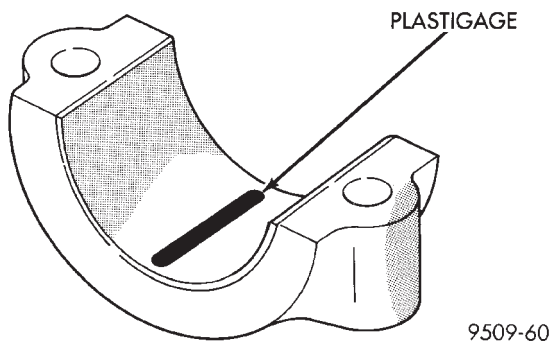
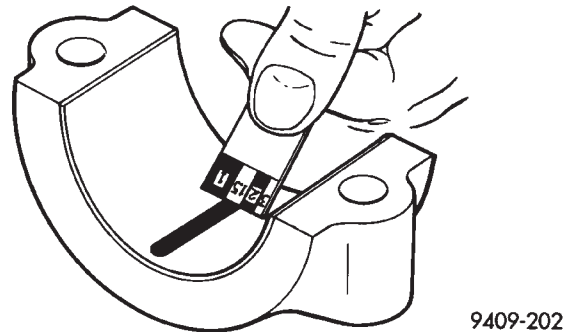

Fig. 3 Plastigage Placed in Lower Shell
Fig. 4 Clearance Measurement
- (1) Remove oil film from surface to be checked. Plastigage is soluble in oil.
- (2) Place a piece of Plastigage across the entire width of the bearing shell in the cap approximately 6.35 mm (1/4 in.) off center and away from the oil holes (Fig. 3). (In addition, suspected areas can be checked by placing the Plastigage in the suspected area). Torque the bearing cap bolts of the bearing being checked to the proper specifications.
- (3) Remove the bearing cap and compare the width of the flattened Plastigage (Fig. 4) with the metric scale provided on the package. Locate the band closest to the same width. This band shows the amount of clearance in thousandths of a millimeter. Differences in readings between the ends indicate the amount of taper present. Record all readings taken. Refer to Engine Specifications. **Plastigage generally is accompanied by two scales. One scale is in inches, the other is a metric scale.**
- (1) Rotate the crankshaft until the connecting rod to be checked is at the bottom of its stroke.
- (2) Remove oil film from surface to be checked. Plastigage is soluble in oil.
- (3) Place a piece of Plastigage across the entire width of the bearing shell in the bearing cap approximately 6.35 mm (1/4 in.) off center and away from the oil hole (Fig. 3). In addition, suspect areas can be checked by placing plastigage in the suspect area.
- (4) Assemble the rod cap with Plastigage in place. Tighten the rod cap to the specified torque. **Do not rotate the crankshaft while assembling the cap or the Plastigage may be smeared, giving inaccurate results.**
(5) Remove the bearing cap and compare the width of the flattened Plastigage (Fig. 4) with the scale provided on the package. Locate the band closest to the same width. This band indicates the amount of oil clearance. Differences in readings between the ends indicate the amount of taper present. Record all readings taken. Refer to Engine Specifications. **Plastigage generally is accompanied by two scales. One scale is in inches, the other is a metric scale. If the bearing clearance exceeds 0.076 mm (0.003 in.) replace bearing.**